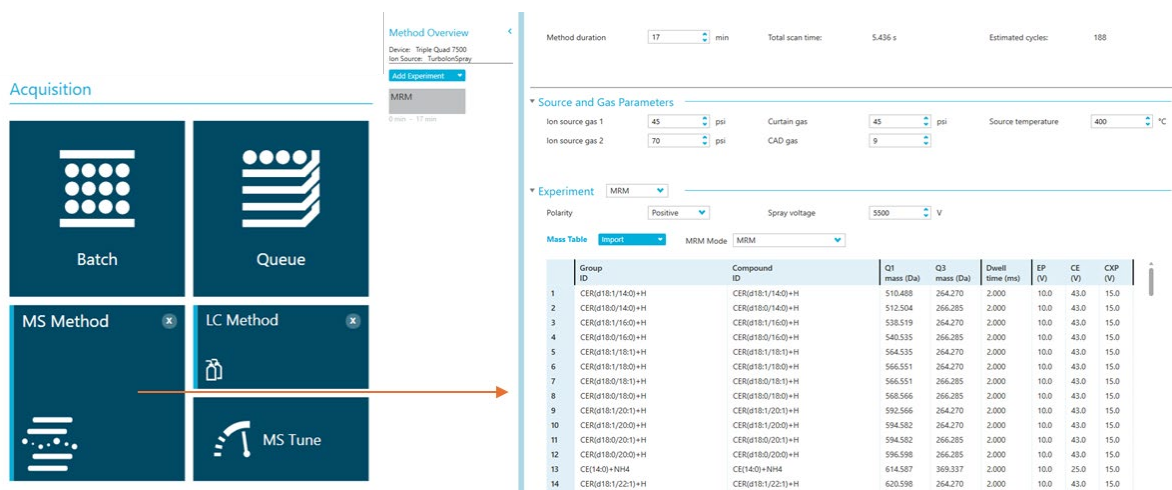

Figure 5-1: Building Separate Unscheduled MRM Acquisition Methods for Each Polarity in SCIEX OS Software.
3. On the *Acquisition* panel of the software home screen (**Figure 5-1**), click *MS Method*. From the drop-down menu, select MRM for the scan type.
Use the SCIEX OS Home icon tab or the SCIEX OS logo dropdown (top left corner) to navigate the **LC Method** workspace [see **Figure 5-1** for home tab reference]. Fill out the details in each tab [binary gradient, autosampler, column oven] using the LC gradient details in **Tables 6-1 and 6-2**. Don’t forget to select the appropriate injection volume. NOTE: The system controller tab is usually unnecessary unless expressly advised or set up by the service. Save the LC method as *Lipids_NH2_17 mins_Date*.